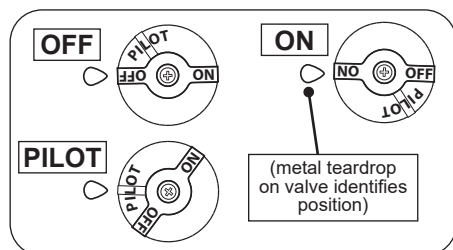
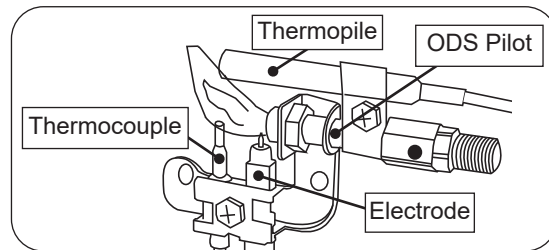

Fig. 26-1 Gas control knob
Fig. 26-3 ODS Pilot assembly detail
2. Locate the valve on the unit. Push in the gas control knob slightly and turn clockwise  to **OFF** (Fig. 26-1).
**Wait five (5) minutes to clear out any gas. Then smell for gas, including near the floor. If you smell gas, STOP! Follow "B" in the safety information above. If you do not smell gas, go to the next step.**
3. Locate the pilot assembly toward the center of the unit, near the main burner (see Fig. 26-3).
4. Turn the control knob counterclockwise  to **PILOT**. Push the knob **firmly and fully** in and hold. Push the piezo igniter button several times until the pilot lights. Continue to hold the knob in for about one (1) minute after the pilot is lit. Release the knob and it will pop back out. The pilot will remain lit. See Fig. 26-1 and 26-3. If it goes out, repeat steps 2-4. Alternatively, a long-stem match/ long-necked butane lighter can be held near the thermocouple to light the pilot.
1. Ensure the pilot is burning. Turn the control knob counterclockwise  to **ON** (see Fig. 26-1).
Turn the flame adjustment knob counterclockwise  toward **LO** to decrease the flame height. Turn clockwise  toward **ON** to increase the flame height. See Fig. 26-3.
**To shut down the burner and pilot (total shutdown)**, flip the toggle switch to **OFF**, and push in the control knob slightly and turn clockwise  to **OFF** (see Fig. 26-1 & 2).